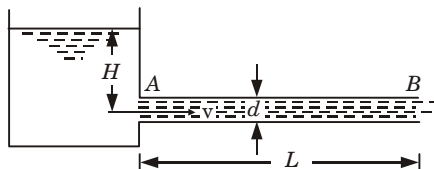

Fig. 3.15.1.
1. Consider a tank and pipe connected system as shown in Fig. 3.15.1.